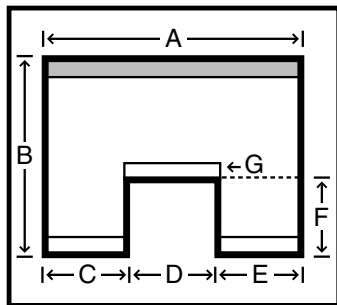

Figure 7 Bottom Cut Out
- Bottom cut out blinds (Figure 7) will have three bottom rails. Blinds will raise from "G" (shown in Figure 7) to head rail.